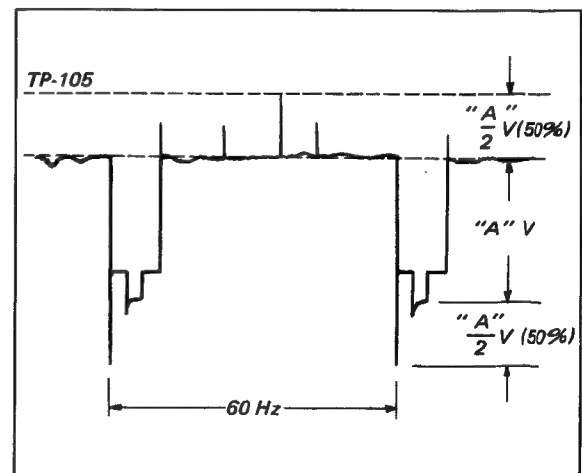

Fig. 5-1b. White clip and dark clip levels
12. (Omit this step for these sets having a serial number below 10,550, as these machines are not equipped with Dark Clip Adjustment R155). Adjust R155 so that the negative spike in the vertical blanking pulse falls 50% below sync tip amplitude. See Fig. 5-1b.
13. Adjust R137 (White Clip) so that extreme peak-white parts of the waveform are $A + \frac{A}{2}$ volts (p-p) as shown in Fig. 5-1b